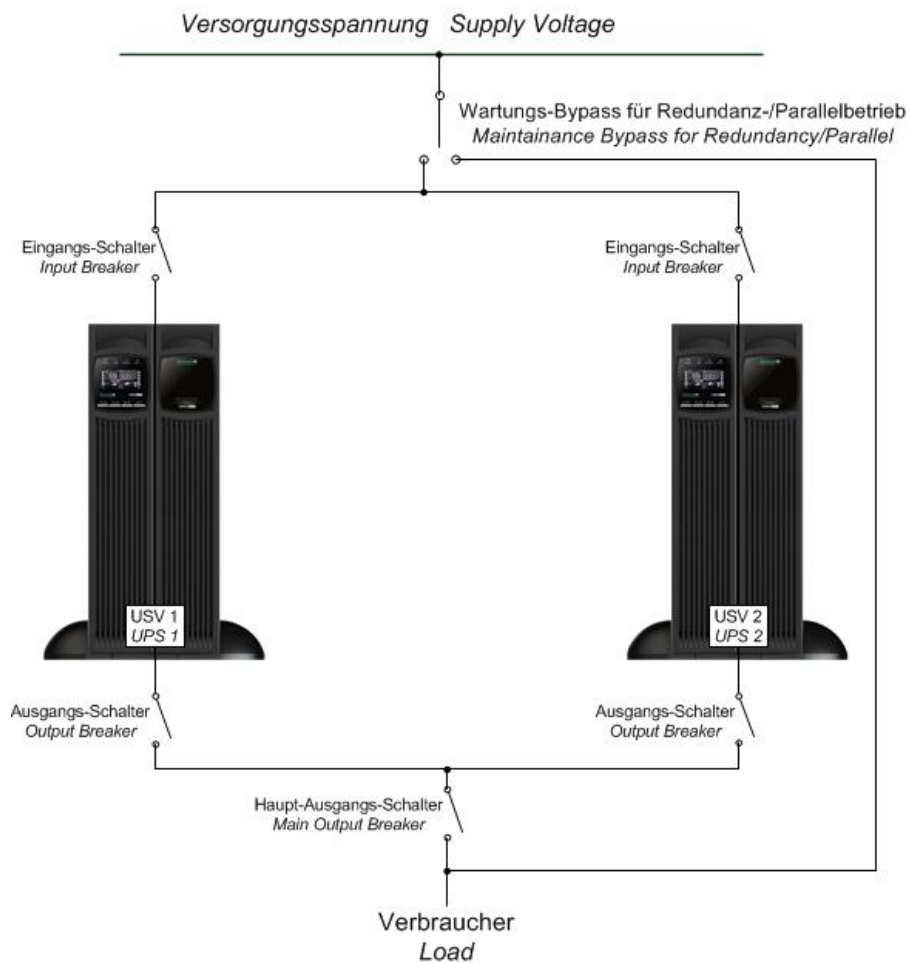

Figure 17: Block circuit diagram for parallel connection
3. ONLINE also recommends an additional maintenance switch (not included) to install the group (see Figure 17: Block circuit diagram for parallel connection).